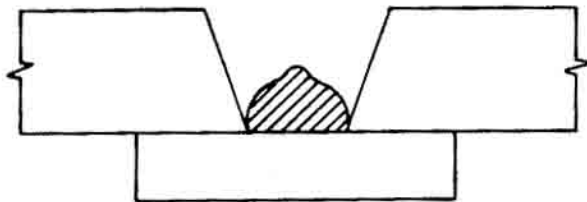

FIGURE 9 — Result of Excessive Flux.
2. Avoid excessive flux buildup in a deep groove. Use only enough flux to prevent excessive flashing. Excessive flux depth will result in a very poor bead shape. (See Figure 9) The weight of the flux bears on the liquid weld metal and will deform the finished bead.